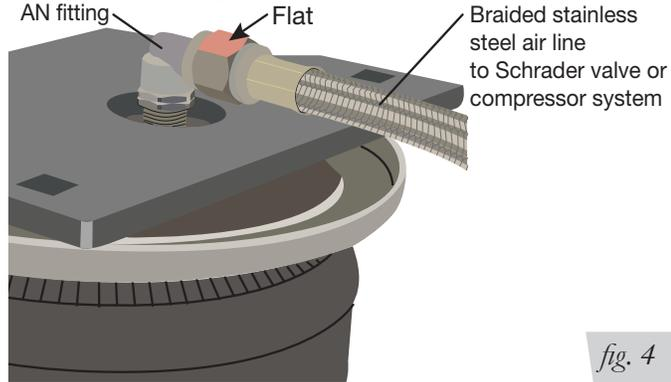

fig. 4
1. Install the upgraded air spring fitting on the air spring finger tight plus 1 3/4 turns (Fig. 4).
3. Tighten the air line hex nut finger tight, then use 2 wrenches to turn 1 additional flat (1/6 of one full turn). **Do not overtighten** (Figs. 4, 5 & 6). The easiest way to tighten the fittings is off the vehicle. Install the Schrader valve in the chosen location.